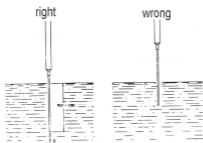

Fig. 7
- \* For an accurate reading of T2, with liquid temperature probe (see Fig. 7)